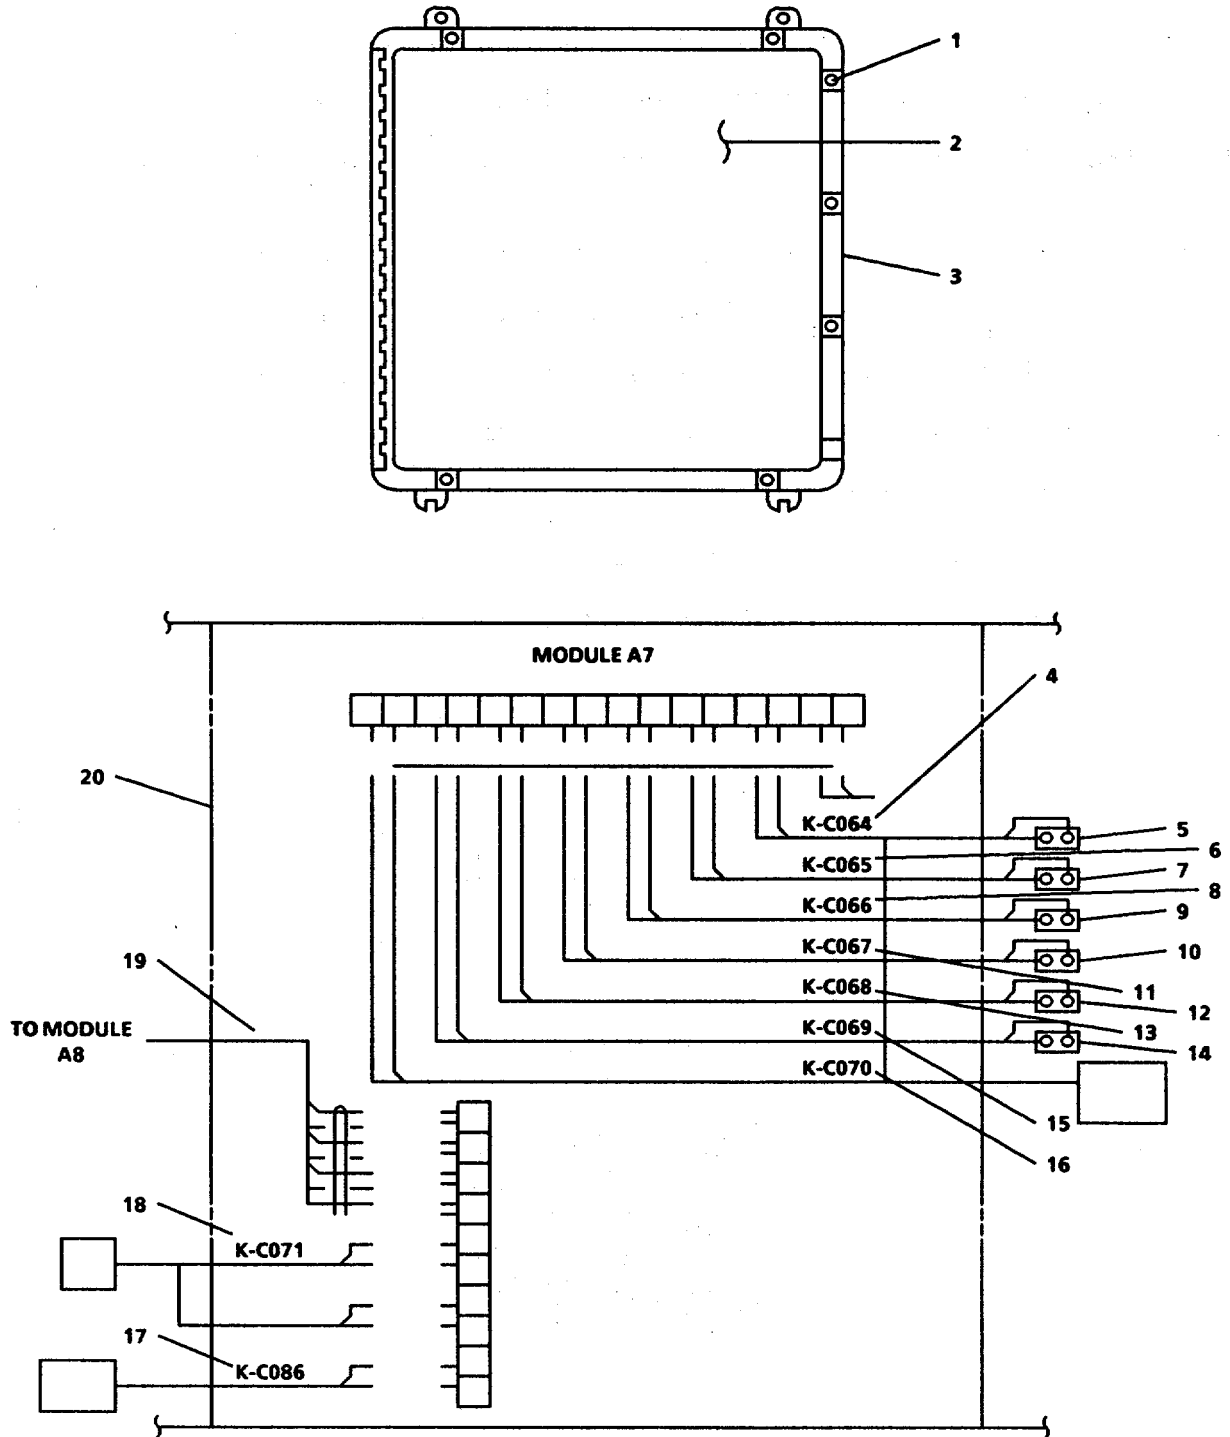

FIGURE 3-111. Port Engine Remote Module.
- b. Remove tag and connect electrical power cable (10) to pressure switch (11).
- c. Remove tag and connect electrical power cable (12) to pressure switch (13).
- d. Remove tag and connect electrical power cable (14) to pressure switch (4).
- e. Remove tag and connect electrical power cable (6) to pressure switch (5).
- f. Install engine room multi-remote module (8).
- h. Close cover (2) on enclosure (3) and tighten captive screws (1, Sheet 1).
**3-124. Replace/Repair Port Engine Remote Module. (Figure 3-111)****This task covers:**